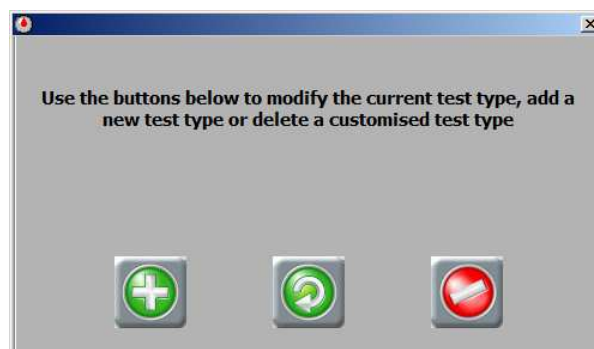

Fig. 6-10
3. Select the type of test you want to work with from the **Test type control** (see Fig. 6-10).